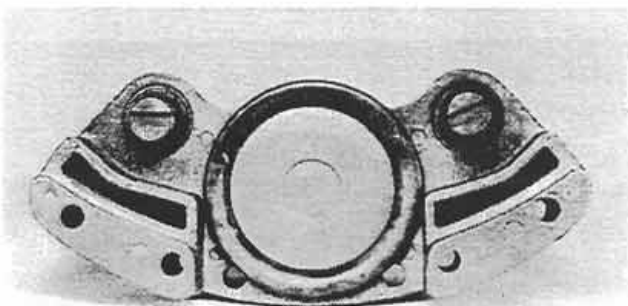

Figure 18:
5. Bottom the piston in its bore and fit the outer lip of the dust boot into the small groove near the pad end of the piston (Fig. 18).